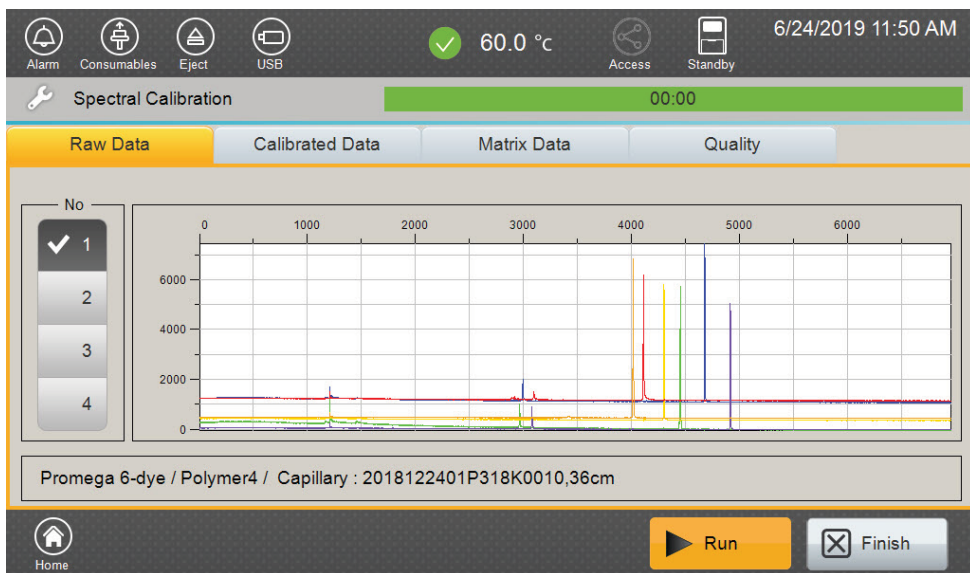

Figure 10. Spectral Calibration 'Raw Data Tab' screen.
1. After the run, the 'Raw Data' tab (Figure 10) will be displayed. The minimum peak height for spectral calibration is 500 relative fluorescent units (RFU) and the maximum peak height is 32,767RFU.